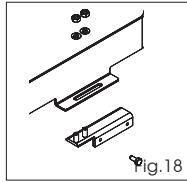

Fig.18
- 1) Fit and secure the 2 profiled steel plates on the 2 U-supports, using the supplied nuts and washers, as shown in figure 18.